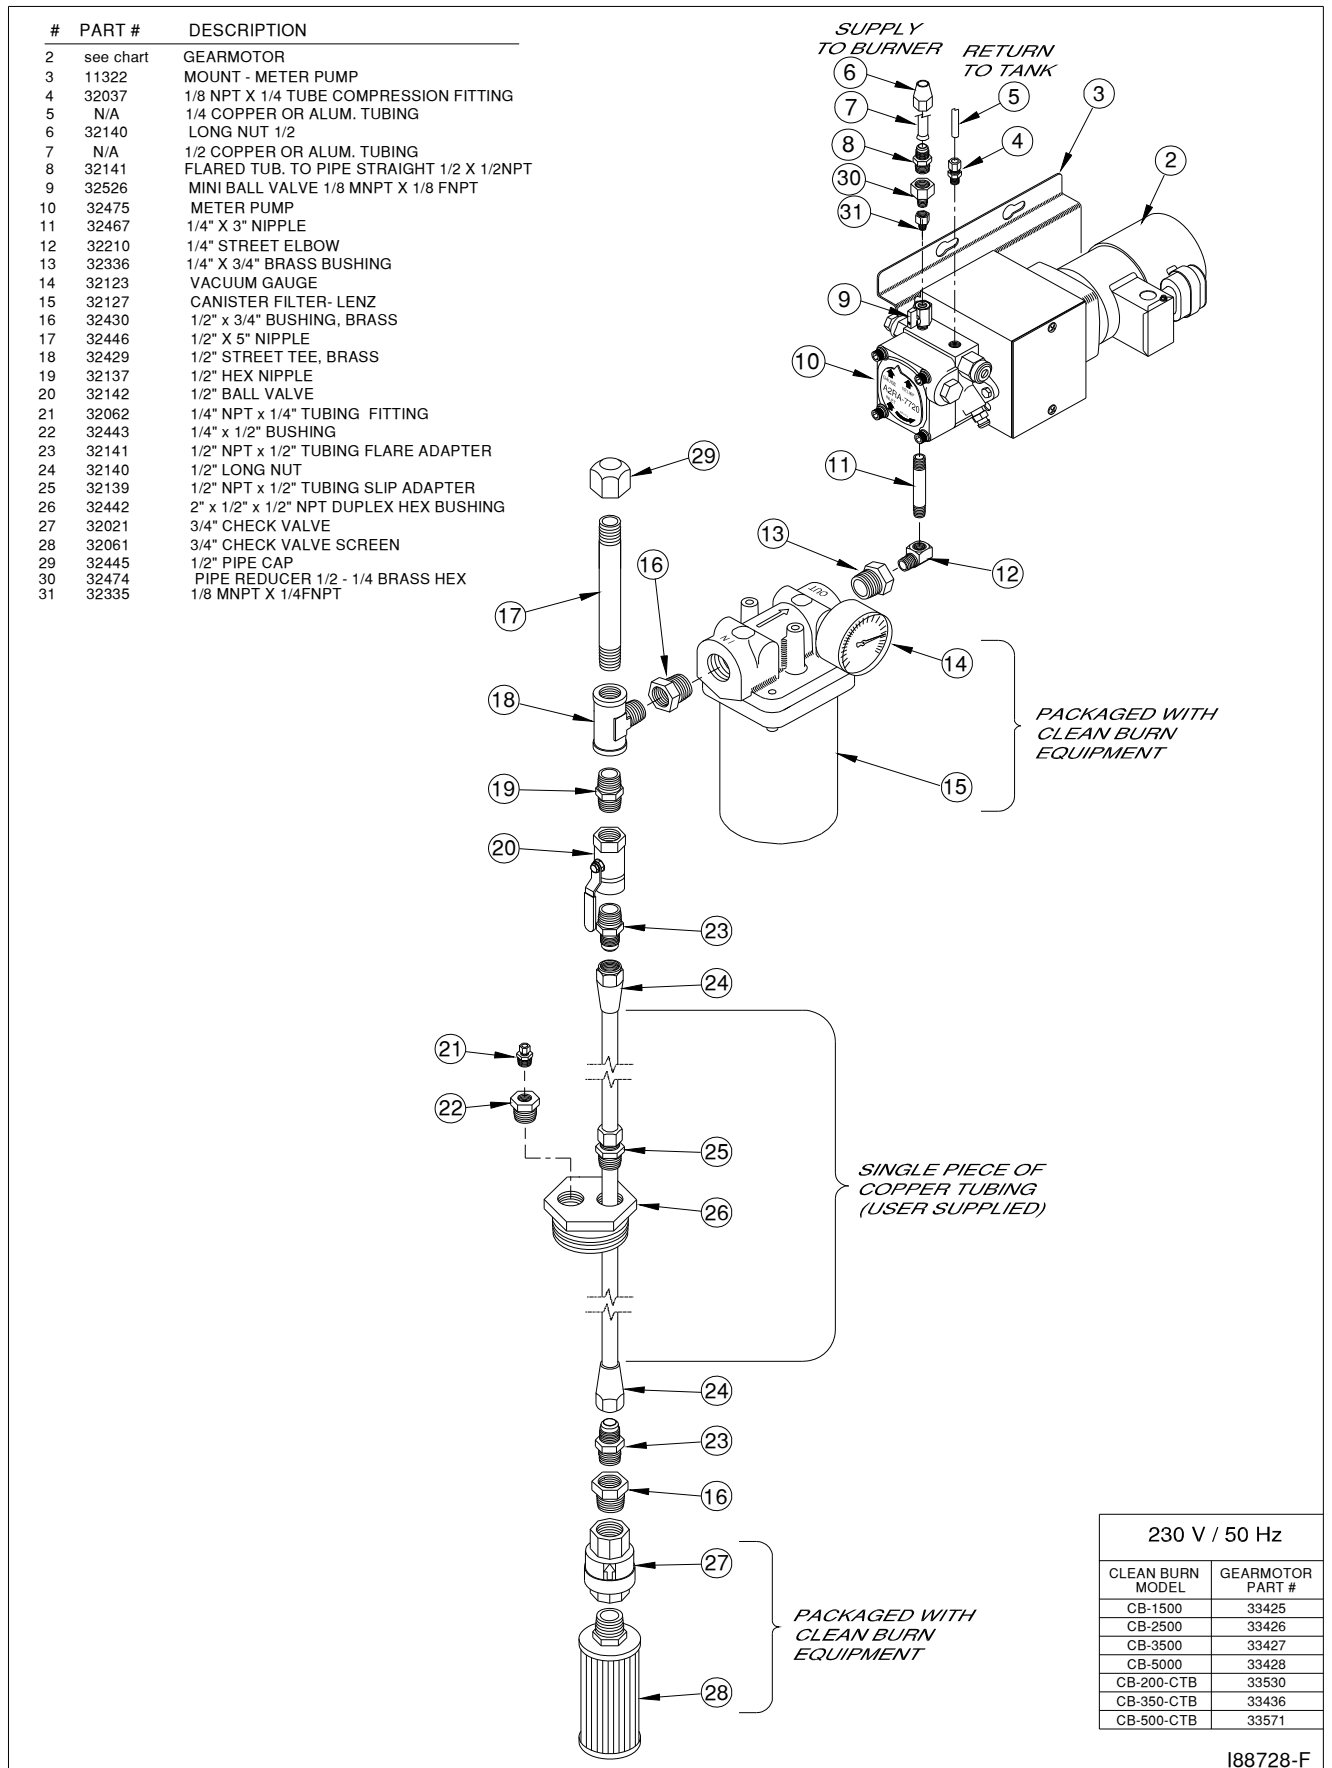

Figure 4H - Metering Pump Component Detail
- Verify that you have the proper metering pump for your furnace (note the specific gear motor part numbers shown in Figure 4H).
1. Refer to Figures 4H and 4I.
- All suction oil line components must be installed as shown in Figures 4H and 4J. **Suction line size is 13 mm (1/2") diameter.** Proper installation allows the suction oil line to be filled with used oil during initial priming.
- Refer to Figure 4H for a detailed look at the metering pump components and fittings.
- Install the canister filter assembly onto the 1/4" brass street elbow as shown in Figure 4H. The canister filter must be installed with the arrow pointing towards the pump (direction of oil flow).
- a. Refer to Figures 4H and/or 4J.
The metering pump requires the installation of a pressure relief oil line back to the tank that you are pulling oil from as shown in Figures 4H, 4J, and 4K.